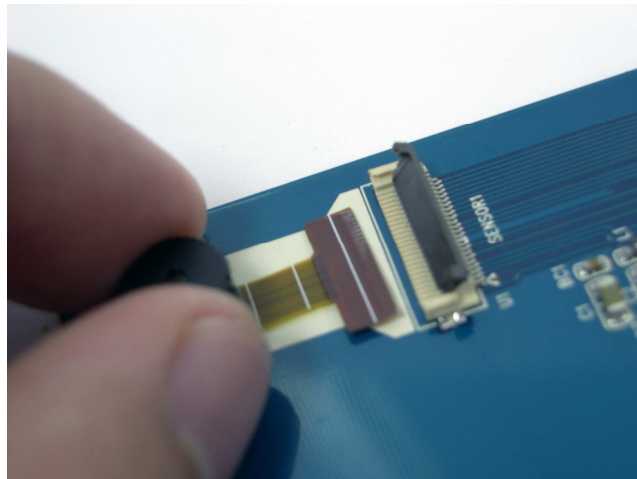

Figure 1.2 Connect the Sensor to “SENSOR1 U1” ( For **DE2/DE2** Users ONLY)
1. For Altera DE2/DE1 board users, assemble the CMOS sensor lens into the 1st Sensor Connector (Sensor1-U1) on the **DC2** board, as shown in Figure 1.2.